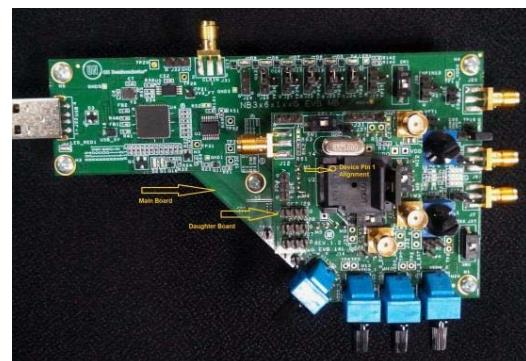

Figure 2. Top View of Main Board with 16QFN
- d. Place NB3H63143G in the DUT socket U2. For pin 1 alignment refer to Figure 2